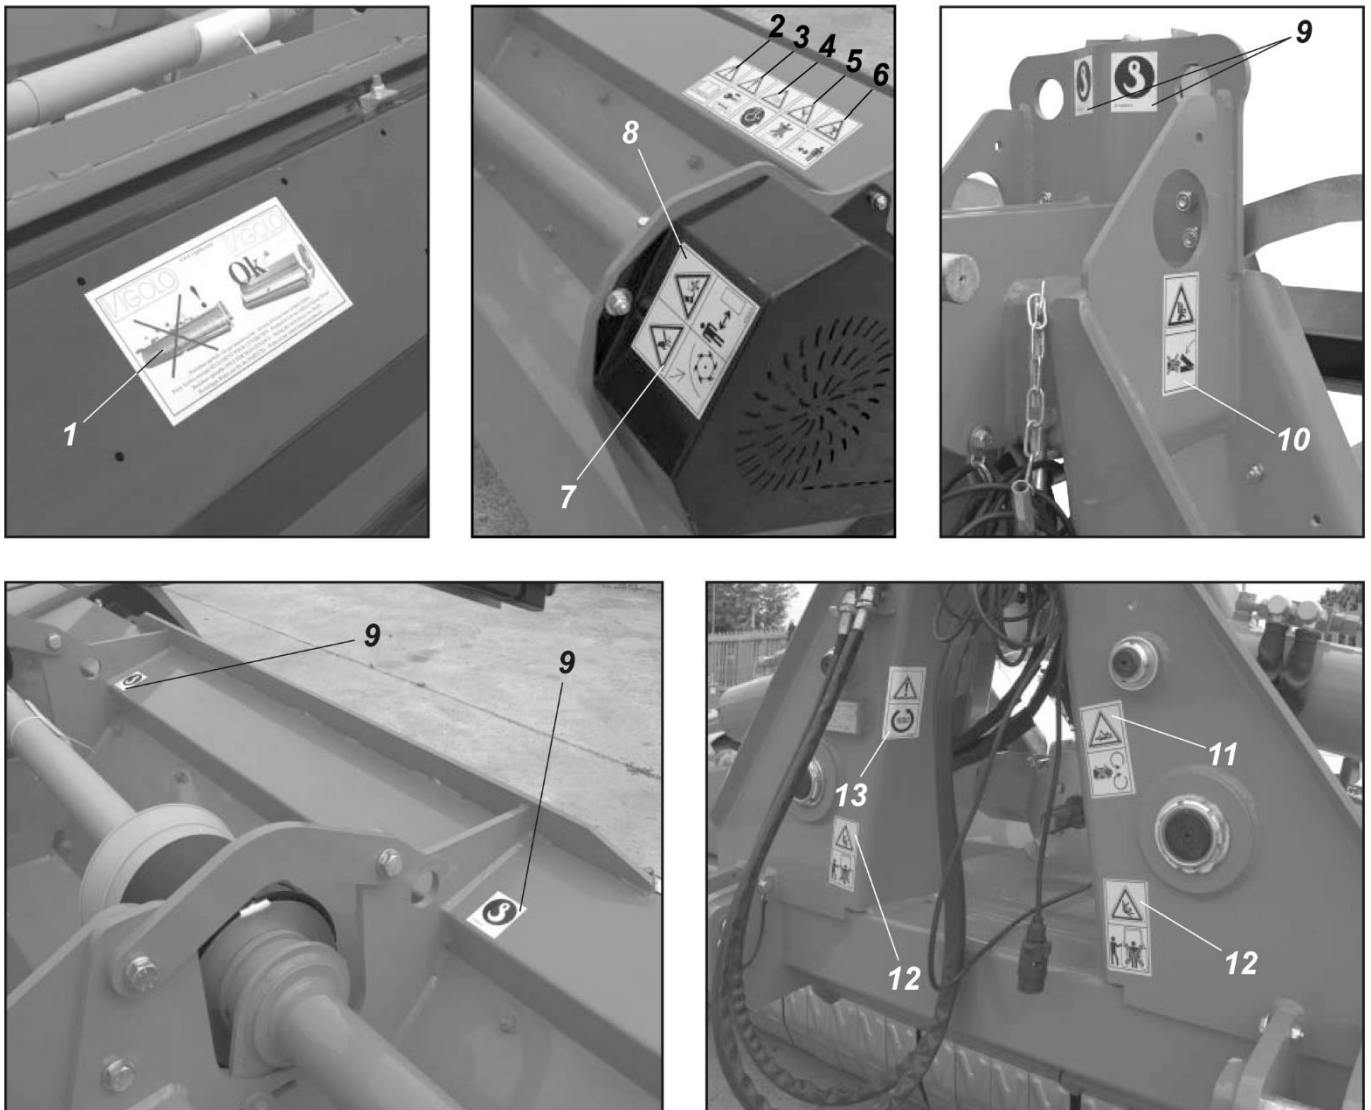
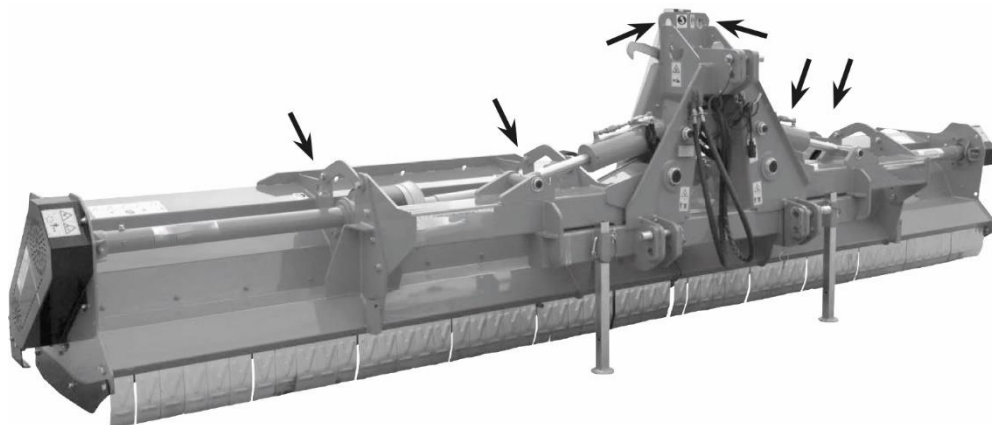

Figure 2.2
Figure 3.1
Figure 2.2 shows an indication of the precise points on the machine where the safety decals and serial plate are usually applied by the manufacturer.
- Make sure all safety decals are legible. Clean them and, where necessary, replace them with new labels; see Figure 2.2.
- Make sure the safety decals are in good condition. If the decals have deteriorated, they must be replaced with other originals to be ordered from the manufacturer and attached in the position illustrated; see Figure 2.2.
Before using, check that the available means are intact and suitable. Select ropes and/or chains of suitable lifting power, attaching them only to the lifting points designed for that purpose and marked with the relative symbol; see Figure 2.2 and Figure 3.1.